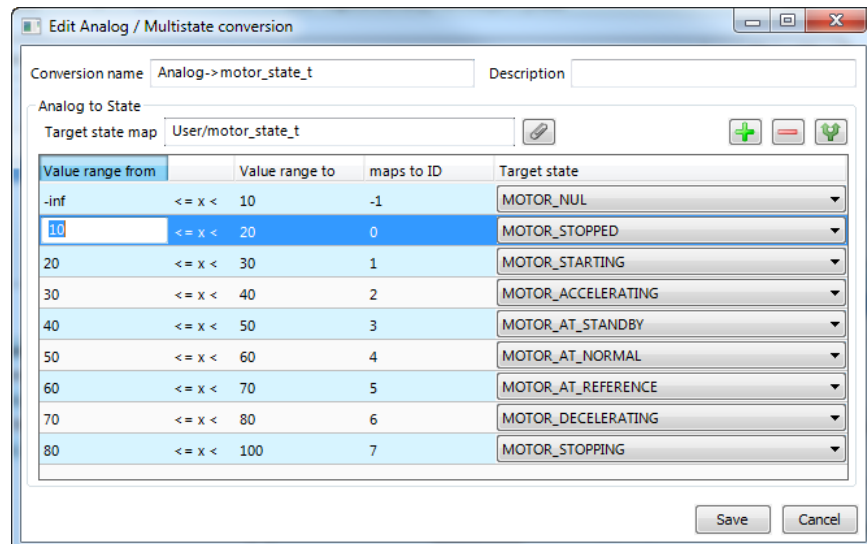

Figure 78: Edit an analog to multi-state conversion.
- An example for editing an analog to multi-state value conversion is shown in Figure 78. Enter a **Conversion name**, then edit the **Value range from** column and select the desired **Target state** mapping.